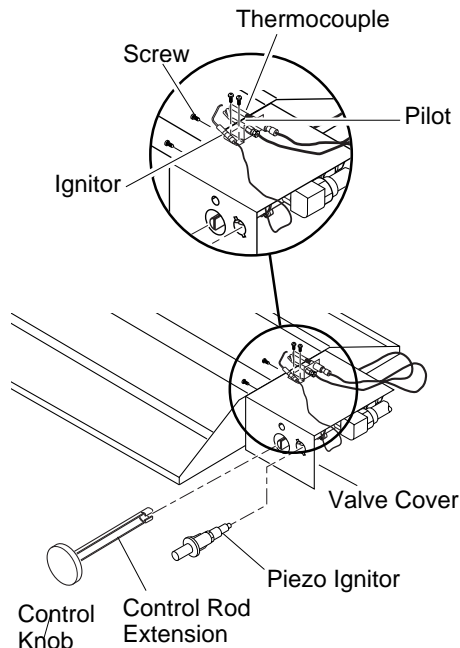

**Figure 11 - Gas Control Valve with Thermocouple and Pilot**
2. Attach the pilot gas line to the pilot outlet of the gas control valve and tighten. Connect the thermocouple to the rear of the gas control valve. See Figure 11. Do not overtighten. If using propane/LP gas, see *Changing Pilot Orifice*, page 11.